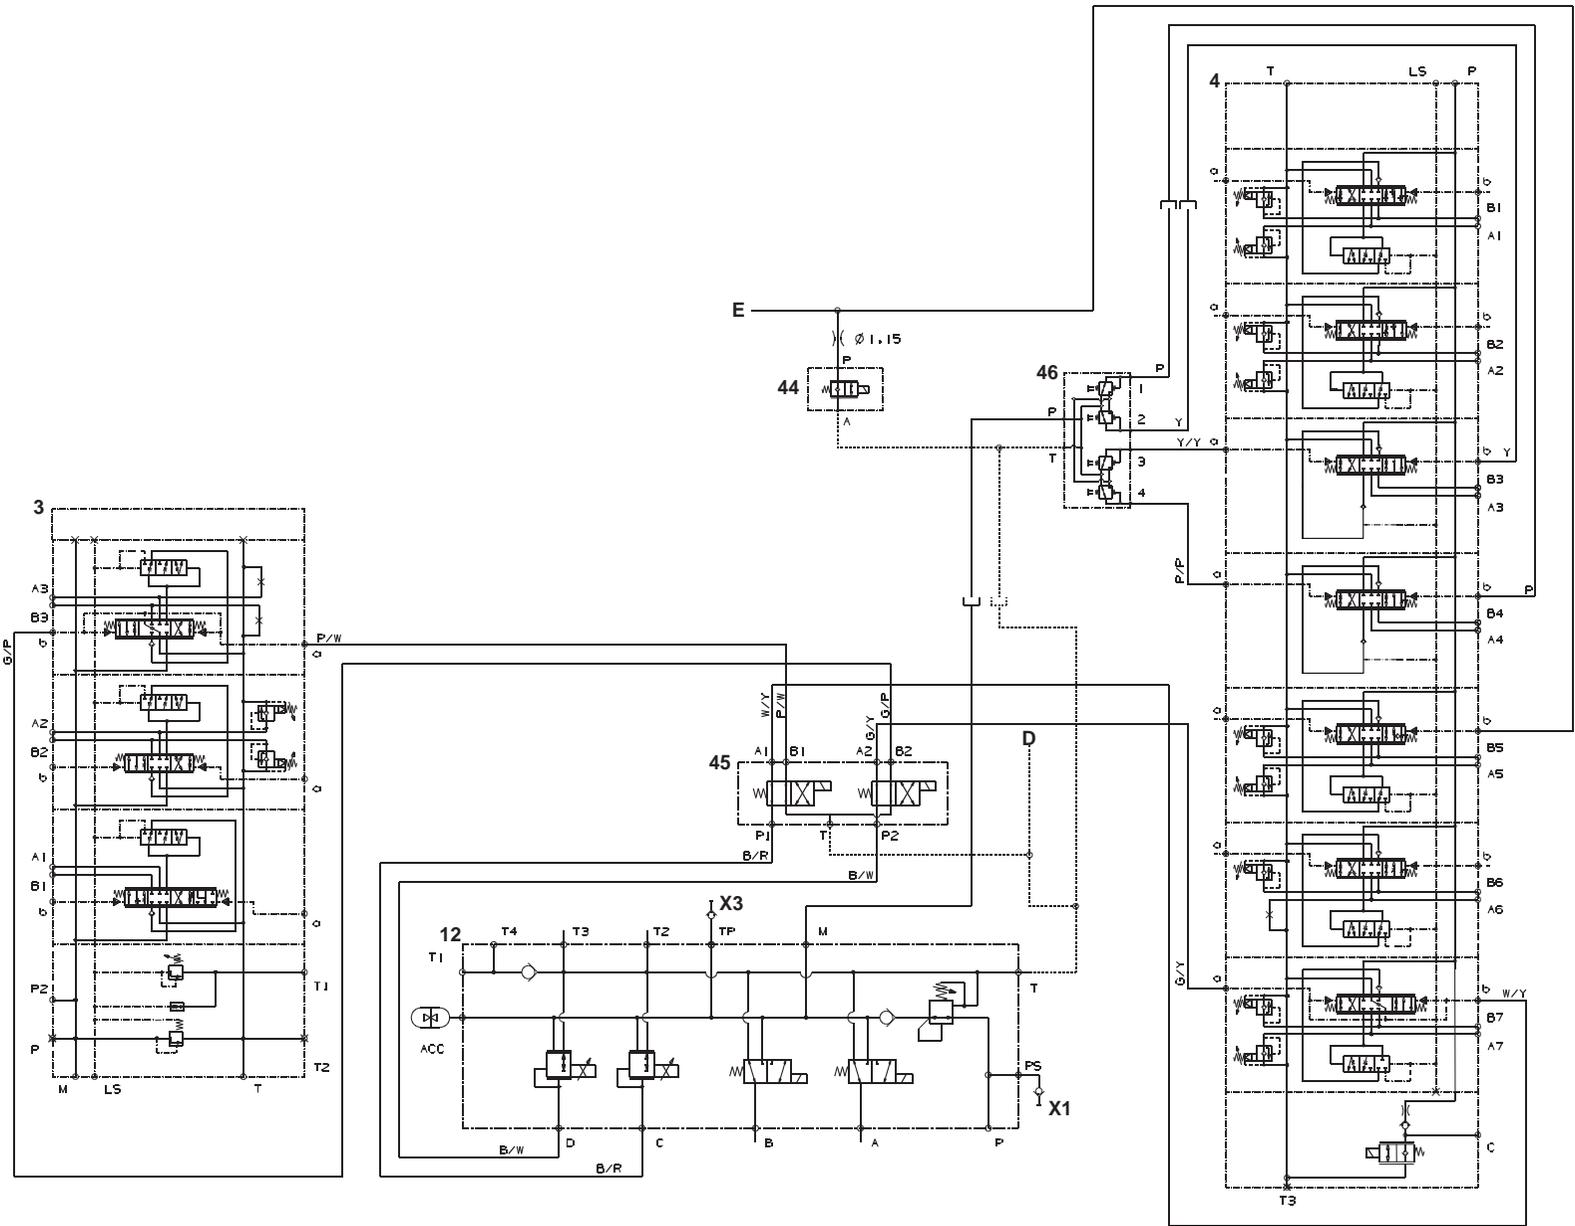

Fig 10. Auxiliary Service Changeover, Stabiliser Controls and Grading Mode, Sheet 3 of 6
⇒ Fig 10. \(□ L-114\)
- D To D ⇒ Fig 10. \(□ L-114\)